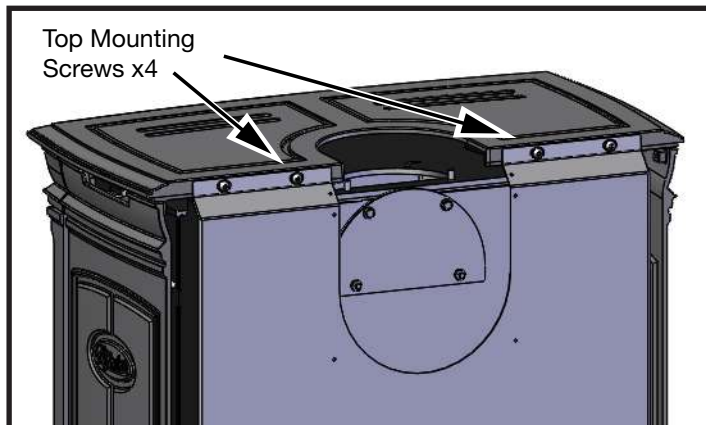

Figure 4: Flue Conversion Step 2a.
2. Remove the four Top Mounting Screws holding the top to the rear air shield and loosen the two bolts holding the top to the front crown bracket (under front edge of top on each side). Pull the top forward to release it from the mounting brackets. Carefully lift up and remove the cast top (Figure 4).